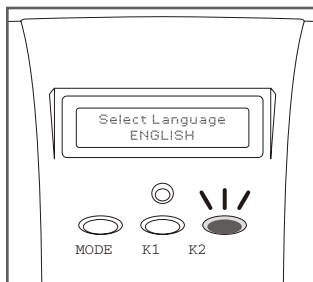

Figure 3
To select the language you wish, follow these instructions (see figure 3):
- 2) On the screen, two options will be shown. By pressing the “K2” button repeatedly the 6 available options will cycle (figure 3)